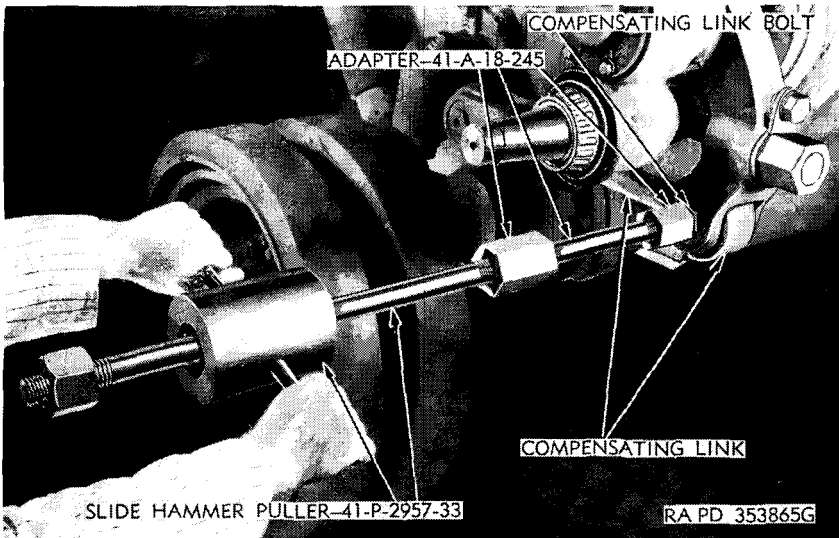

Figure 145. Removing compensating link bolt.
a. REMOVAL. Remove compensating wheel and hub (par. 173). Remove nut, cotter pin, and washer from inside end of compensating link rear bolt. Install adapter—41-A-18-245 on link bolt, attach slide hammer puller—41-P-2957-33 to adapter; and pull bolt (fig. 145). Working at front end of compensating link, remove bolt holding link to track wheel support arm in same manner and remove link.
b. **INSTALLATION.** Lift compensating link into position on track wheel support arm (fig. 145) and line up connecting bolt holes. Place compensating link bolt in position and drive in, using a soft hammer. Install washer and nut on bolt and tighten to 180 foot-pounds torque (min). Connect rear end of link to compensating arm in same manner. Install compensating wheel and hub (par. 173), and adjust (par. 173). Connect track and adjust (par. 171).